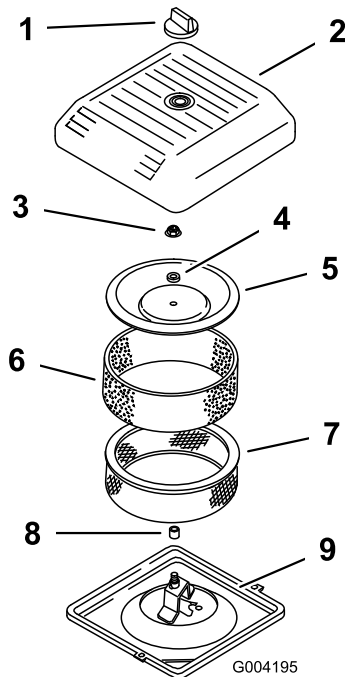

Figure 44
3. Unscrew the knob and remove the air-cleaner cover (Figure 44).
4. Carefully slide the foam pre-filter off of the paper element (Figure 44).
5. Unscrew the cover nut and remove the cover, spacer, and paper filter (Figure 44).
2. Place the air cleaner assembly onto the air cleaner base (Figure 44).
3. Install the cover, spacer and secure it with the cover nut (Figure 44). Torque the nut to 11 N·m (95 in-lb).
4. Install the air cleaner cover and secure with the knob (Figure 44).